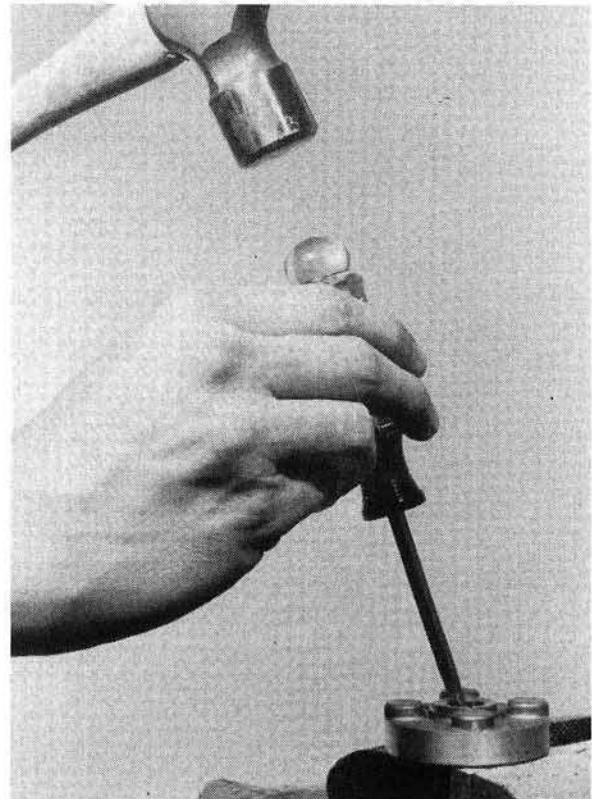

Figure 9. Removing Propeller Shaft Seal
- C. Remove seal from bearing cage as shown in figure 9.